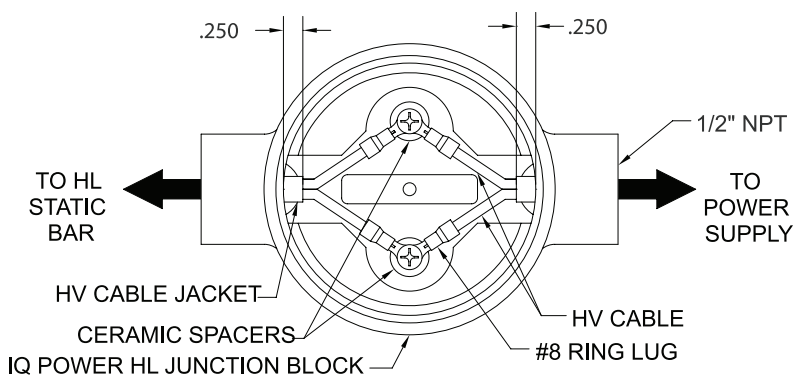

FIGURE 5
6. Ensure that there is at least $\frac{1}{4}$ " (0.250" [6.35 mm]) of the black PVC jacket protruding beyond the input ports of the HL Junction Block as shown in **Figure 5**.